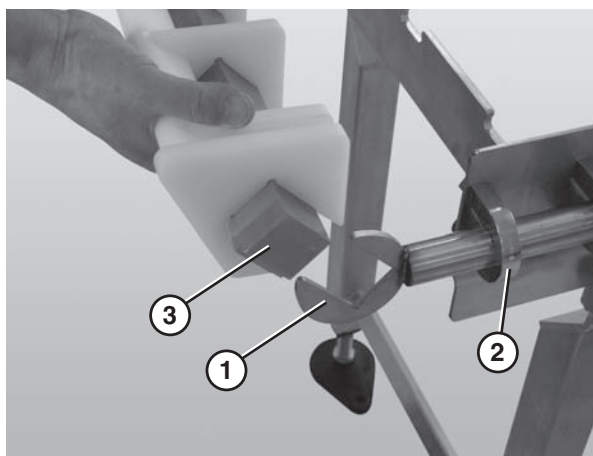

Figure 21
1. Slide the nose bar idler shaft hands (Figure 21, item 1) into the take up blocks (Figure 21, item 2).
2. Attach the nose bar transfer post (Figure 21, item 3) to the nose bar idler shaft hands.